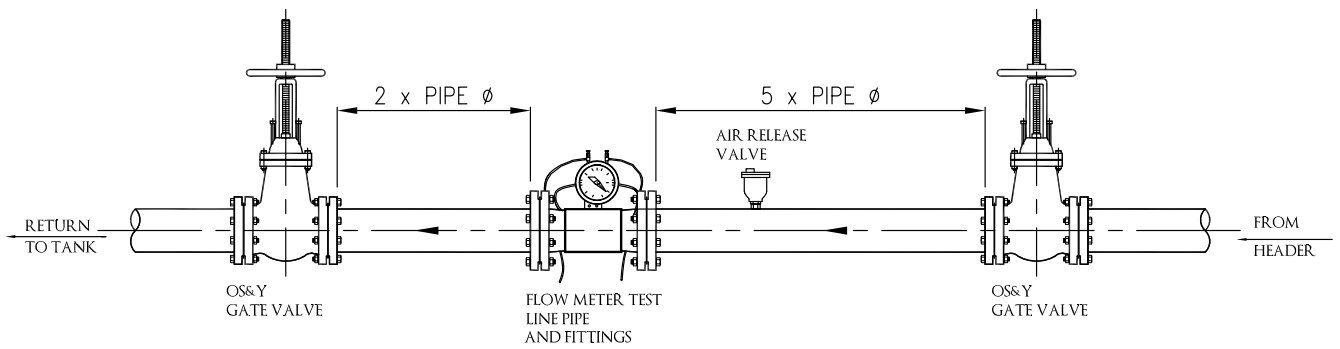

Fig. No. 12 Subject to flow meter manufacturer's recommendations.
The flow meter arrangement of NAFFCO pump set is built as per flow meter manufacturer's instructions. The operating guidelines are following (See fig. no. 12 also):
2. Open OS&Y test line valves (shown in the fig. no. 12) or butterfly throttle valve (according to- system requirement).